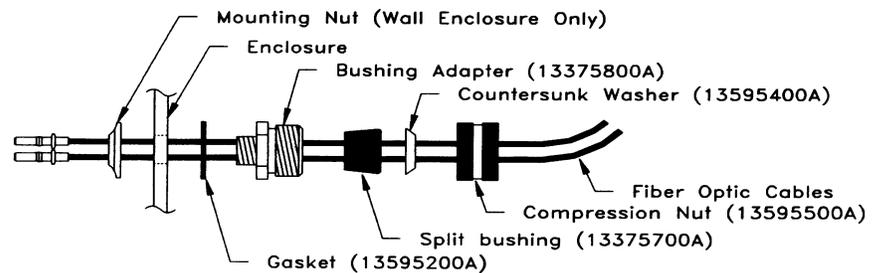

Figure 2-10 Fiber Optic Grip Clamp Installation
8. Plug in the fiber optic cables. J1 is transmit, and J2 is receive. Tighten the compression nut to secure the fiber optic cables. Refer to Figure 2-10. **Be sure the fiber optic cable is not bent to less than a 1/2 in. radius. Any sharp kink in the fiber optic cable will render it useless.**